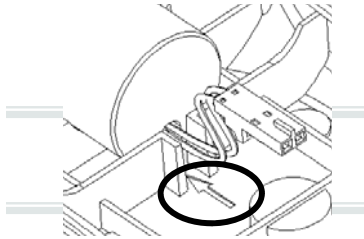
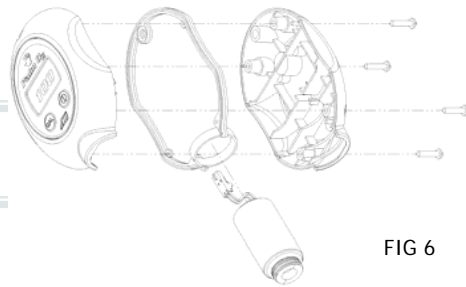
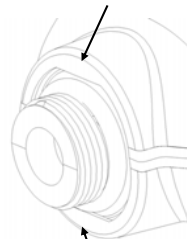

FIG 5
FIG 6
FIG 7
- (a) Align the rear of the sensor as shown in FIG 5, but do not install.
- (b) Insert the sensor into the molded collar, arrow FIG 6, and align the outer shoulder with the front edge of the collar.
- (c) Locate the registration peg indicated by the arrow circled in FIG 5.
- (d) Gently press the hole where the wires exit the sensor onto the registration peg, FIG 5.
3. The sensor is registered as shown in FIG 5 and FIG 7 and the connecting wires are not bent or bound when closing up the enclosure and tightening the Phillips screws, FIG 6.